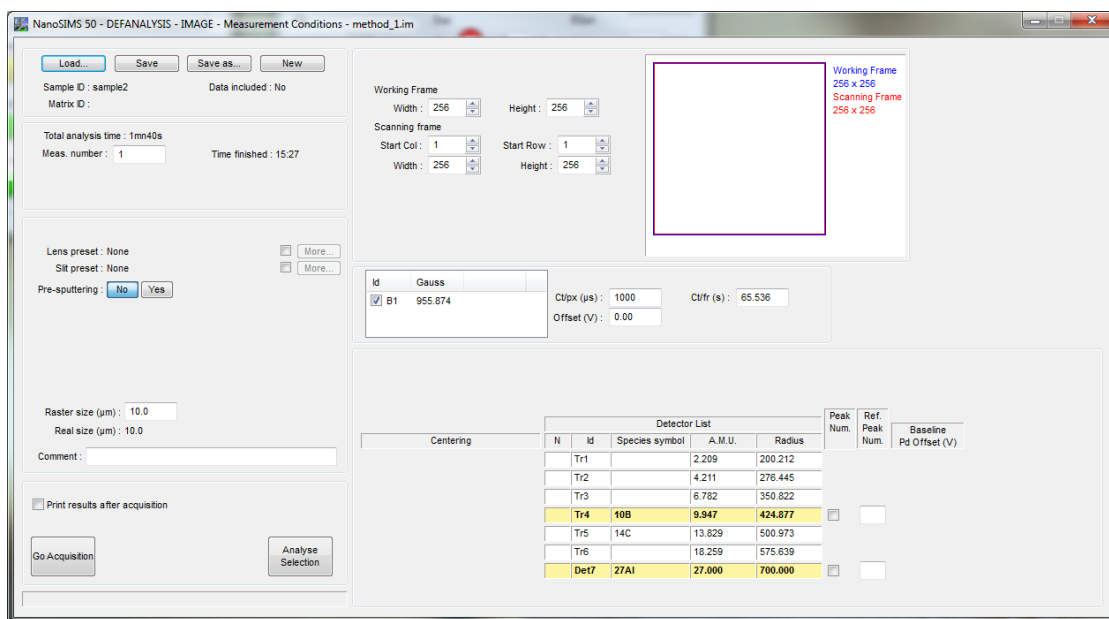

Figure 342: IMAGE "Def Analysis" window
- go back to the Def Analysis window (Figure 342) by clicking on *Change MC*  if you wish to change any acquisition parameter for the next analysis.